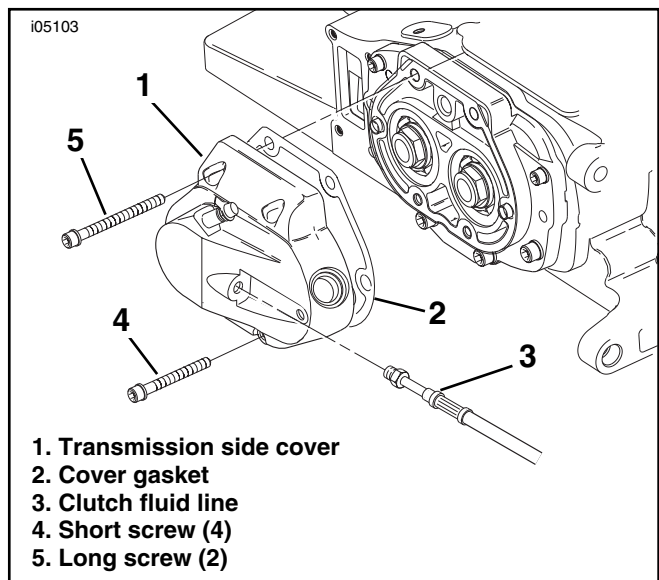

Figure 1. Transmission Side Cover Removal
5. Remove and retain the filler plug/ dipstick for later installation See Figure 1. Remove and retain the six socket-head screws with washers (4 and 5) to free the transmission side cover (1) from the transmission case.
6. Actuate the clutch lever to break the cover seal. Remove the cover. Remove and discard the cover gasket (2).